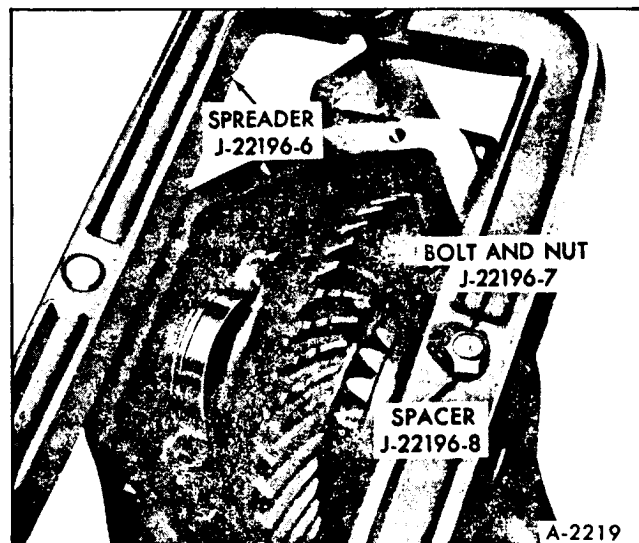

Figure 20—Spreader Installation
6. Install spreader on housing as shown in Figure 20.